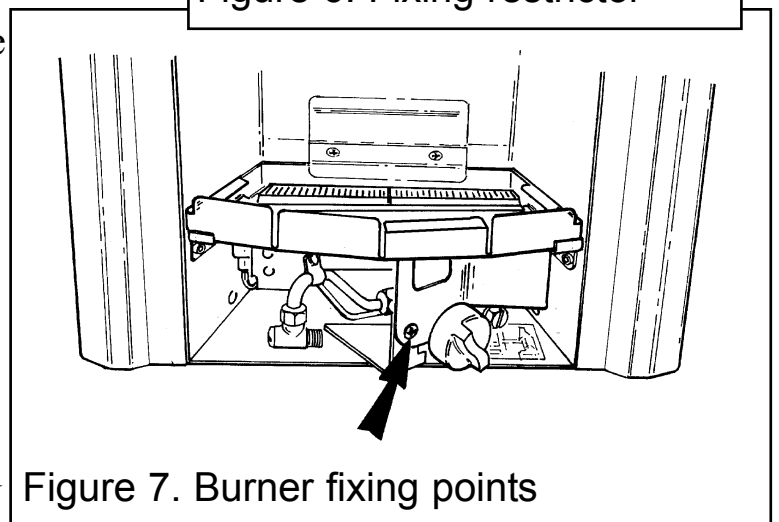

Figure 7. Burner fixing points
- The burner assembly is retained by one screw set in the front leg - See Figure 7. Remove the screw and carefully remove the burner assembly by lifting and sliding forward from the firebox. The burner is produced from a soft ceramic material and should be handled carefully.